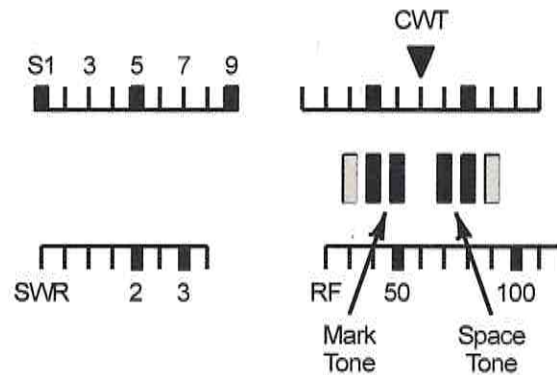

Figure 6-1. CWT display for RTTY.
- The CWT display is turned on automatically when you enter the AFSK A, FSK D and PSK D modes. As shown in Figure 6-1, page 79, the mark tone appears to the left and the space tone to the right of the CWT center marker. Adjust your tuning to center the mark and space tone display as shown.
- The CWT tuning aid will be turned on when you activate AFSK, FSK D, or PSK D. As shown in Figure 6-1, the mark tone appears to the left and the space tone to the right of the CWT center marker. Adjust your tuning to center the mark and space tone display as shown.